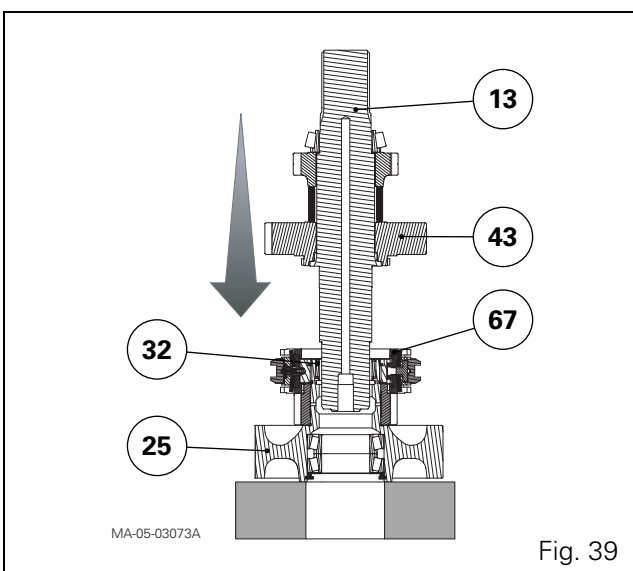

Fig. 39
105. Position the pinion (25) on a support, with the synchroniser turned upwards (Fig. 39).